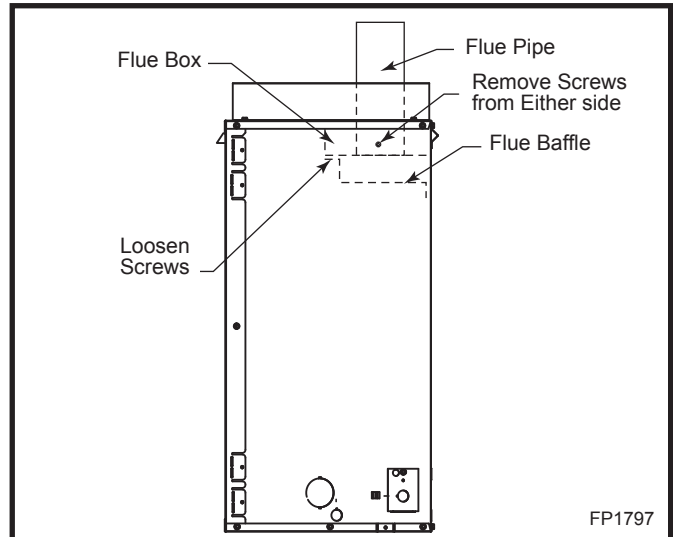
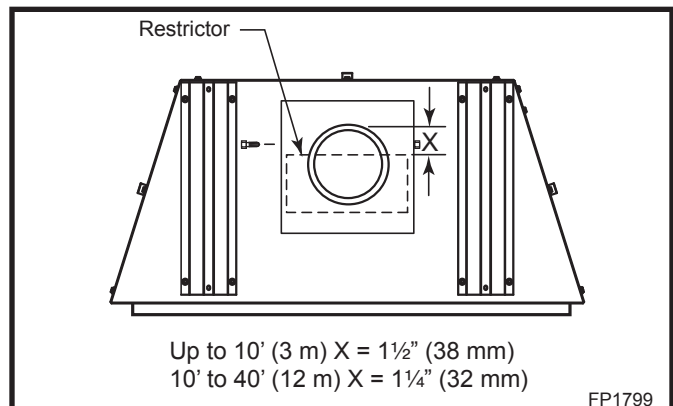

Fig. 43 Loosen screws securing flue baffle.
Fig. 44 Adjust the restrictor for best flame appearance.
1. Loosen the two (2) screws securing the flue baffle. (Fig. 43)
2. Remove two (2) screws from either side of the flue box. (Fig. 43) Adjust the restrictor. (Fig. 44)
3. Tighten the screws in the flue baffle and insert the two (2) screws removed earlier through the slots in the restrictor.